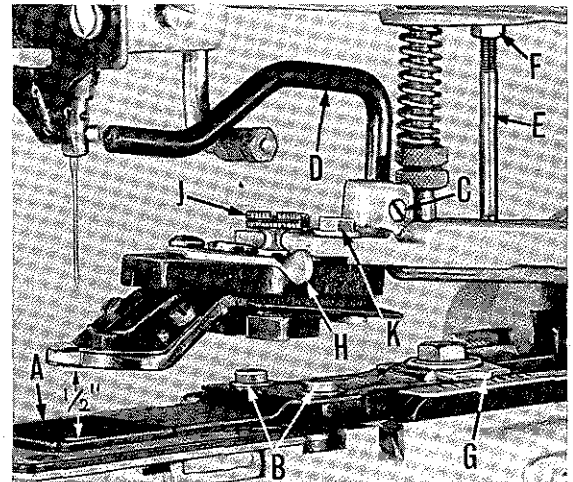
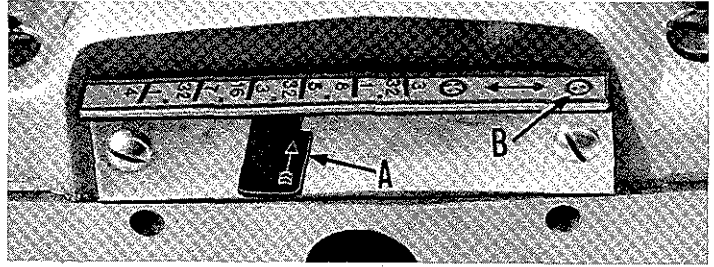

Fig. 7
Fig. 11
Make sure that the feed plate (A, Fig. 7) is set so that it does not interfere with the needle at any point of its travel.
With the machine in stop position, the normal distance between the bottom of the button clamp to the top of the feed plate should be 1/2 inch (Fig. 7). To make this adjustment, loosen set screw (C), and raise or lower rod (D).
Return the machine to stop position, and check the position of the button clamp stop pin (E, Fig. 7). Its purpose is to prevent overthrow of the button clamp so that the needle will not strike the button or any other part of the button clamp. Insufficient clearance between the stop pin and the button clamp holder will cause the machine to re-cycle. Too much clearance will cause the button to strike the needle.
The stop pin, corresponding to (E, Fig. 7), should be set only as low as necessary to drop the feed plate holder off the latch when the machine has reached stop position.
Accurately measure the distance between the holes of the button, and set the pivot indicator (G, Fig. 7) and spring indicator (A, Fig. 11) to the graduations corresponding to the distance between the holes in the button.
With the machine in stop position, insert the button in the jaws of the clamp, and adjust the stop lever (H, Fig. 7) by means of screw (J) so that the button is held loosely by the jaws.
Set pivot indicator (G, Fig. 7) to proper graduation on scale corresponding to distance between holes of button, and set spring indicator (A, Fig. 11) on circle with two dots at left end of scale (B). Continue with adjustment of button clamp the same as for four hole buttons.
When sewing two hole buttons from back to front on Styles 200-6, 200-7, set pivot indicator (G, Fig. 7) and spring indicator (A, Fig. 11) to the proper graduations on scales, corresponding to distance between holes of button. Push in the lever located under the spring indicator (A, Fig. 11). This lever is not illustrated.